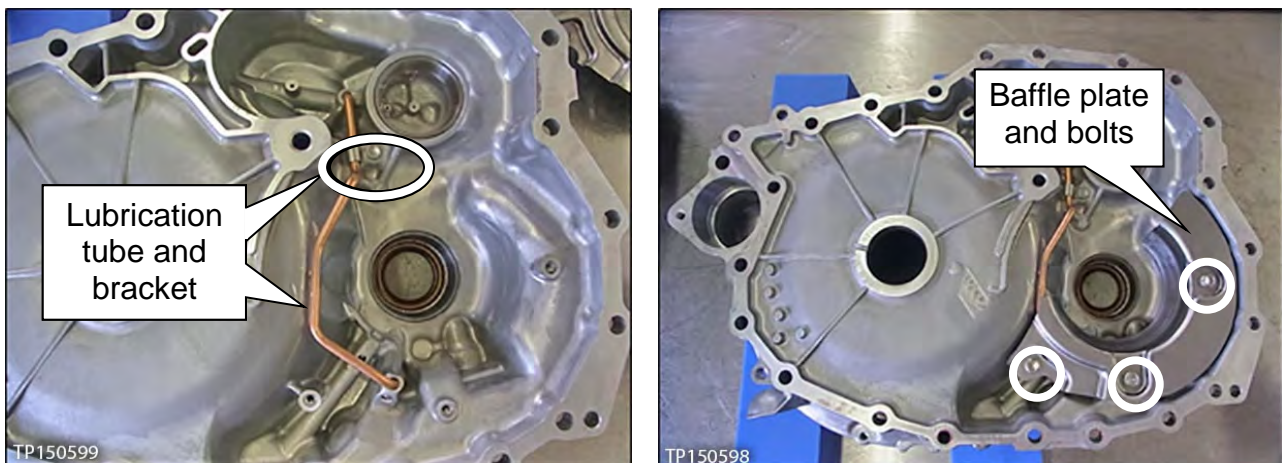

Figure 5H
3. Install the lubrication tube and bracket, and then the baffle plate with three bolts (Figure 5H).